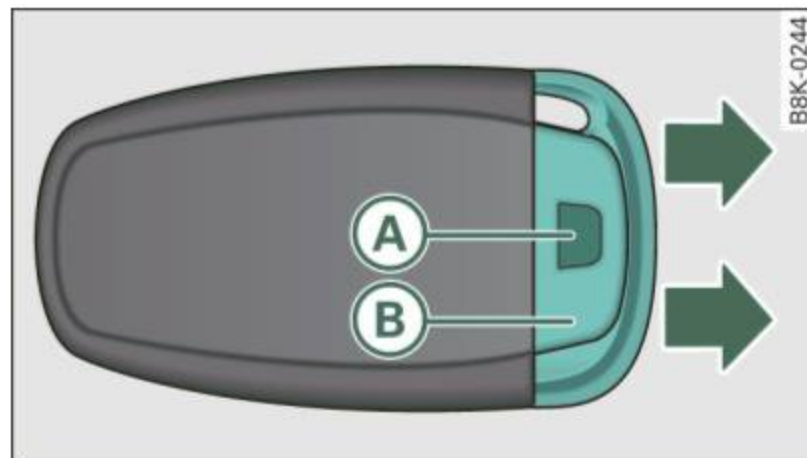

Fig. 31 Remote master key: Removing the mechanical key
- Press the release button **(A)** ⇒ fig. 31.